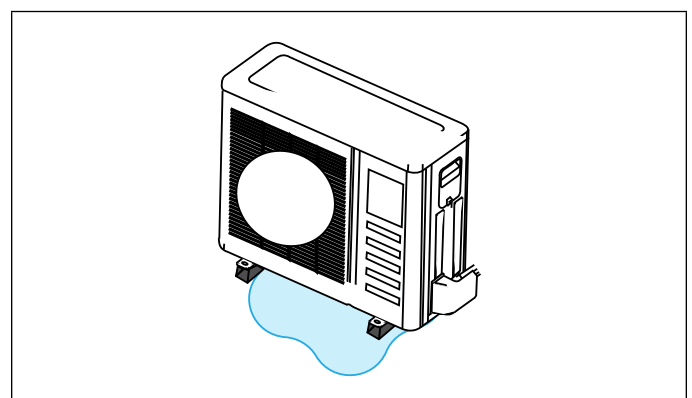

Figure 9. Avoid Defrost Water Ice Hazard
- Carefully consider how to manage defrost water disposal to prevent ice from blocking walkways or creating a safety hazard near the outdoor unit as illustrated in “Figure 9. Avoid Defrost Water Ice Hazard” on page 21.